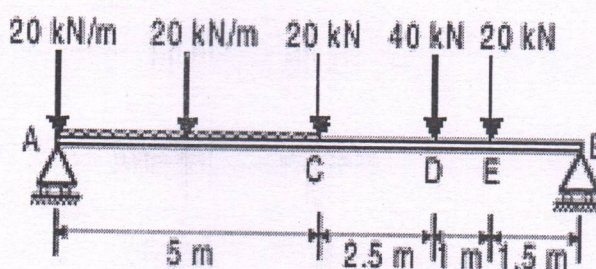

Fig. 4.2
2. Draw the SF and BM diagrams for the beam shown in Fig. 4.2 and find out the position and the magnitude of maximum moment